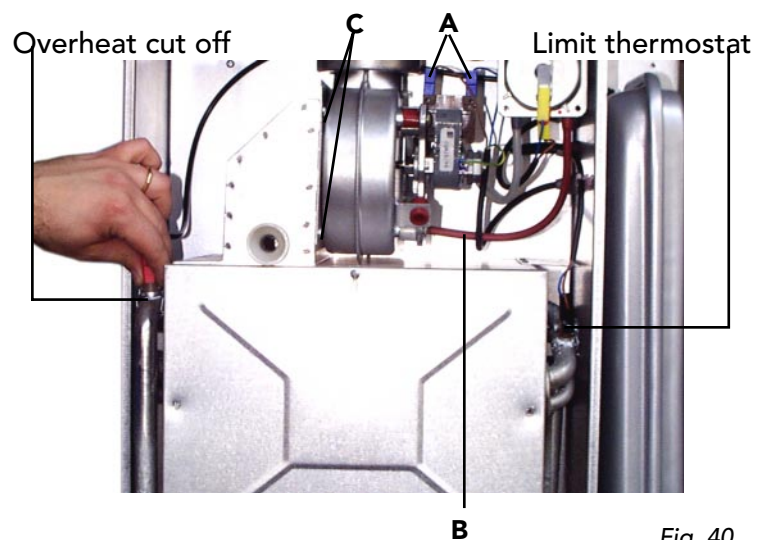

Fig. 40
7.10 Removal of fan (fig. 40)
7.11 Limit thermostat, or overheat cut off thermostat (fig. 40)
- Identify the location of thermostat from fig. 40